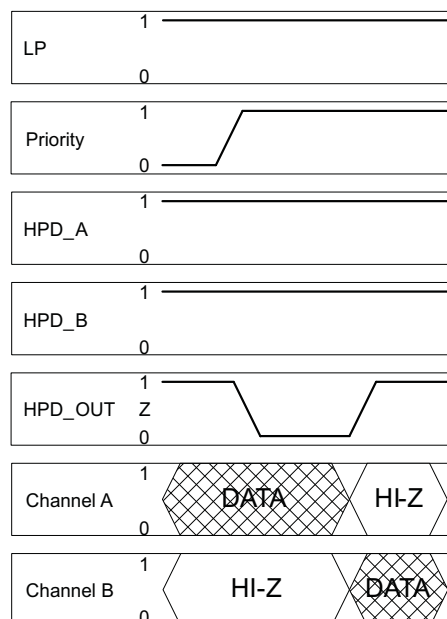

Figure 46.
- Case two: In this case both HPD inputs are HIGH. Changing the state of the priority pin when both HPD inputs are high forces the device to switch which channel is selected. When a state change is detected on the priority pin, the device waits for a short period of time  $t_{T1(HPD)}$  before responding (see Figure 46). The purpose for this pause is to allow for the priority signal to settle and also to allow the device to ignore potential glitches on the priority pin. Once  $t_{T1(HPD)}$  has expired, the HPD output is forced LOW for  $t_{T2(HPD)}$  and the device follows the chain of events outlined in scenario 3 case 2.